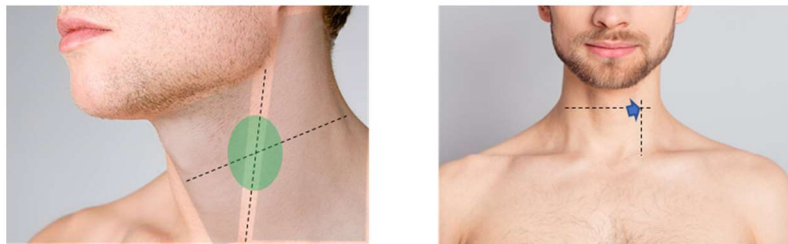

Fig.22. Ideal Measurement site
6. Palpate the left side of the neck to identify carotid pulsations as shown in fig. 22.
In fig. 22 ideal region for identifying the carotid artery and placing the Ultrasound transducer probe is marked.